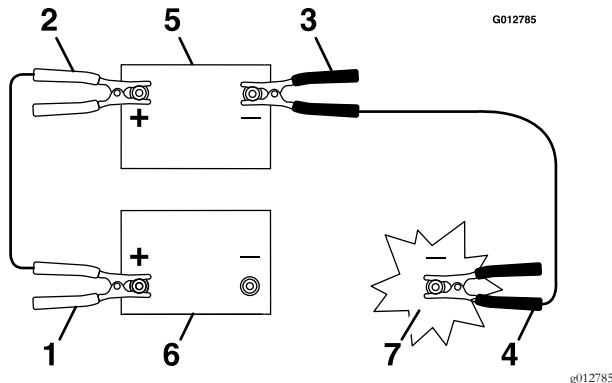

Figure 33
3. Connect the positive (+) cable to the positive (+) terminal of the discharged battery that is wired to the starter or solenoid as shown in Figure 33.